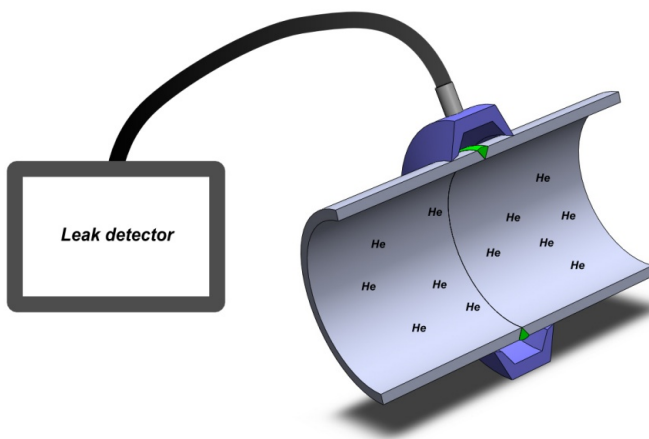

Fig. 1 : Principle of implementation
- 2- Connect the clamshell to the leak detector (fig. 1).